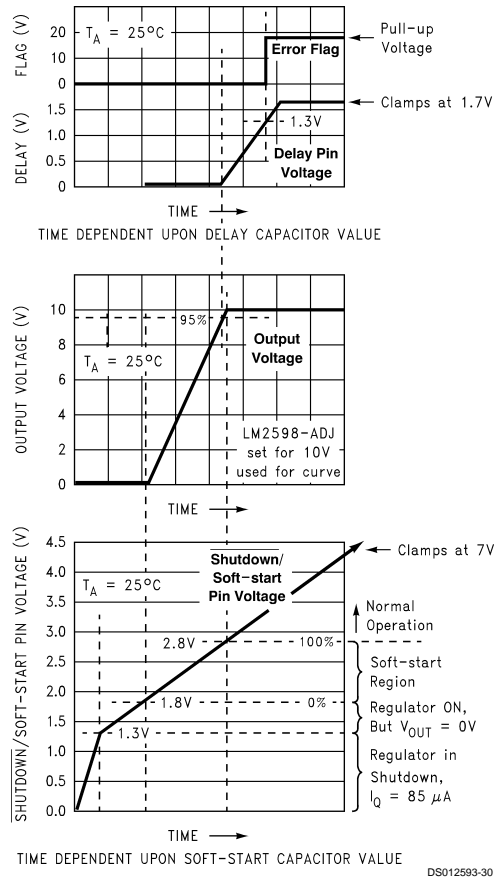
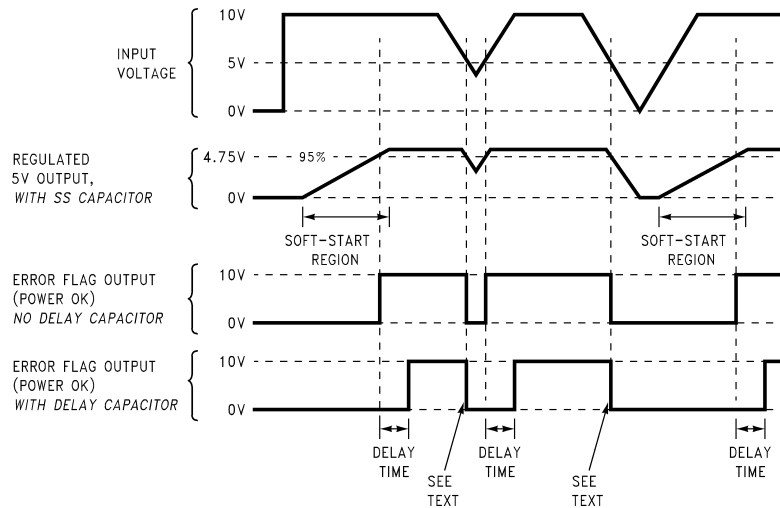

FIGURE 13. Soft-start, Delay, Error, Output
FIGURE 14. Timing Diagram for 5V Output
C_{SS} — A capacitor on this pin provides the regulator with a Soft-start feature (slow start-up). When the DC input voltage is first applied to the regulator, or when the Shutdown /Soft-start pin is allowed to go high, a constant current (approximately 5 μA begins charging this capacitor). As the capacitor voltage rises, the regulator goes through four operating regions (See the bottom curve in Figure 13).
3. Soft-start Region. When the \overline{SD} /SS pin voltage is between 1.8V and 2.8V (@ 25°C), the regulator is in a Soft-start condition. The switch (Pin 1) duty cycle initially starts out very low, with narrow pulses and gradually get wider as the capacitor \overline{SD} /SS pin ramps up towards 2.8V. As the duty cycle increases, the output voltage also increases at a controlled ramp up. See the center curve in Figure 13. The input supply current requirement also starts out at a low level for
Note: The lower curve shown in Figure 13 shows the Soft-start region from 0% to 100%. This is not the duty cycle percentage, but the output voltage percentage. Also, the Soft-start voltage range has a negative temperature coefficient associated with it. See the Soft-start curve in the electrical characteristics section.
C_{DELAY} — Provides delay for the error flag output. See the upper curve in *Figure 13*, and also refer to timing diagrams in *Figure 14*. A capacitor on this pin provides a time delay between the time the regulated output voltage (when it is increasing in value) reaches 95% of the nominal output voltage, and the time the error flag output goes high. A 3 μA constant current from the delay pin charges the delay capacitor resulting in a voltage ramp. When this voltage reaches a threshold of approximately 1.3V, the open collector error flag output (or power OK) goes high. This signal can be used to indicate that the regulated output has reached the correct voltage and has stabilized.